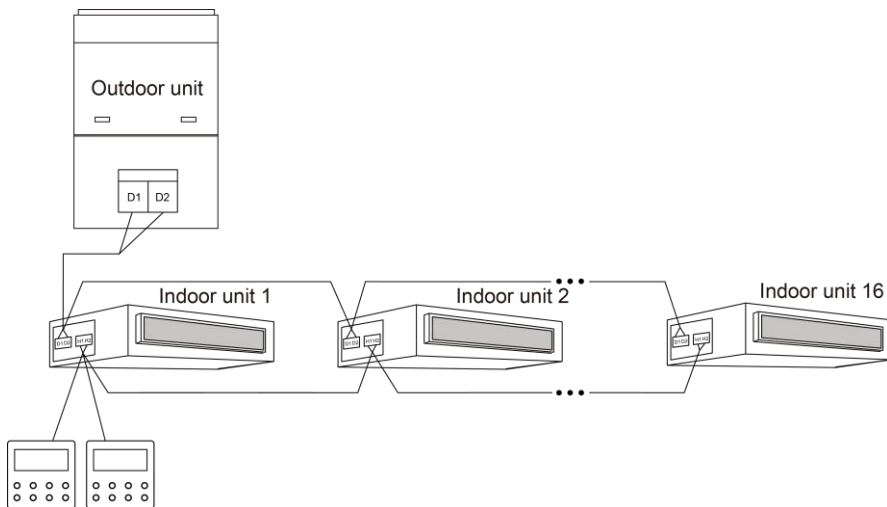

Fig. 3.7 Two wired controllers control multiple indoor units simultaneously
- (1) When one wired controller controls multiple indoor units simultaneously, the wired controller can connect to any one indoor unit, but the connected indoor unit must be the same series indoor unit. The total quantity of indoor unit controlled by wired controller can't exceed 16 sets, and the connected indoor unit must be within the same indoor unit's network. Wire controller must set quantity of group control indoor units. Please refer to 3.2.3 Parameters Setting.
- (2) When two wired controllers control one indoor unit, the addresses of those two wired controllers should be different. Please refer to 3.2.3 parameter setting.
- (3) When two wired controllers control multiple indoor units, wired controller can be connected to any one indoor unit, while the connected indoor unit should be the same series indoor unit. The addresses of those two wired controllers should be different. Please refer to 3.2.3 parameter setting. The total quantity of indoor unit controlled by wired controller can't be more than 16 sets and all connected indoor units must be within the same indoor unit network. Wire controller must set quantity of group control indoor units. Please refer to 3.2.3 Parameters Setting.
- (4) When one (or two) wired controller(s) control(s) multiple indoor units at the same time, the controlled indoor unit's setting should be the same.
- (5) Wiring of wired controller and indoor unit network must be according to one of the four wiring method as shown in fig 3.6-3.9. As for the connection method shown in fig 3.7 and 3.9, there should be only one master wired controller (address is 01) and one slave wired controller (address 02). The quantity of wired controller can't exceed two.
① Common Multi VRF Units; ② Fresh Air Units; ③ Double-heat Sources Units; ④ Combined Units; Except for fresh air units, double-heat sources units and combined units, the rest of indoor units belong to common multi VRF units.